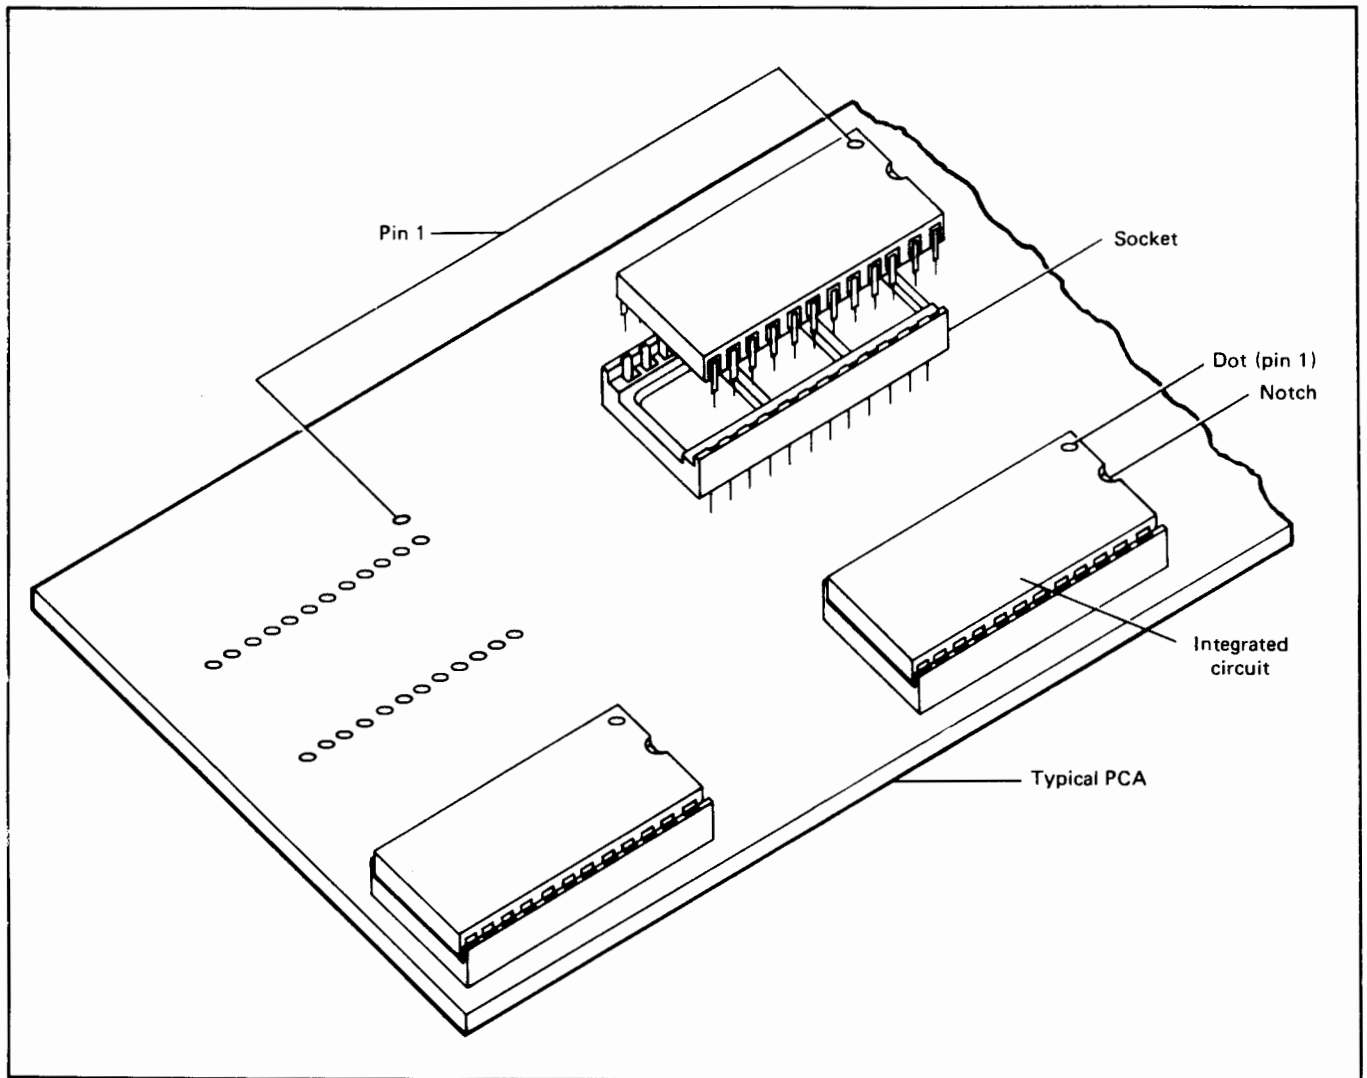

Figure 7-10 Installing An IC
1. If replacement PCA requires ROM's, transfer them from the previously removed PCA. Use an IC removal tool (part no 87i0-0585) to carefully withdraw the ROM's from their IC sockets (see figure 7-10).
REPLACEMENT When replacing a defective IC, be aware that each IC must be oriented and aligned in its socket, i.e. pin 1 of the IC matches pin 1 of the PCA. All IC's on a PCA are usually installed in the same direction, i.e. the notched ends of the IC's are facing in one direction for correct orientation. Pin 1 is usually indicated on the PCA by a mark and pin 1 on the IC is marked by a dot or notch. These markings help to ensure that both the IC socket and IC are installed correctly (see figure 7-10). Install new IC as follows: